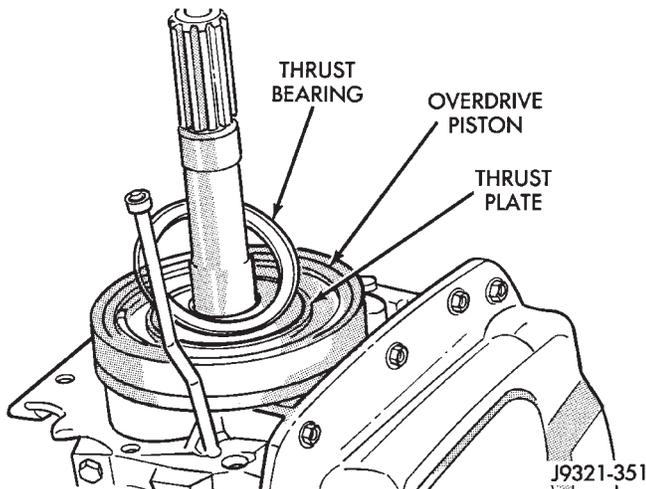

Fig. 209 Overdrive Piston Thrust Bearing Removal/Installation
- (2) Remove overdrive piston thrust bearing (Fig. 209).